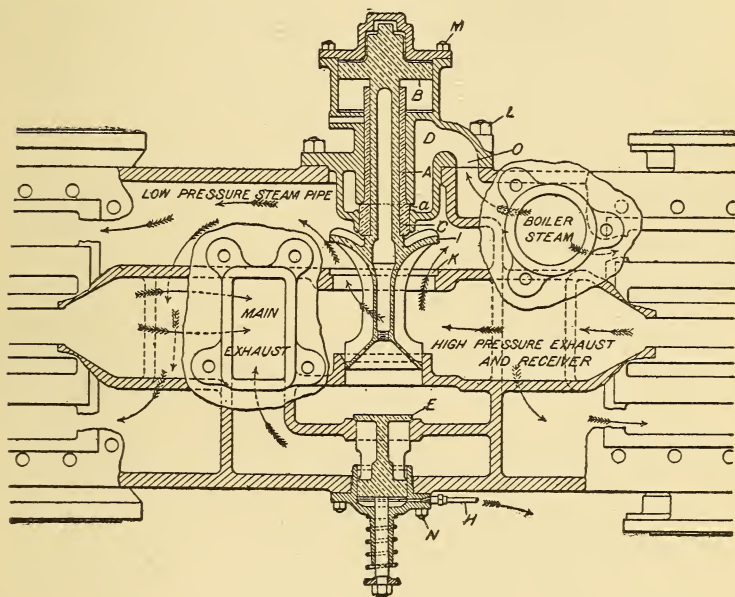

FIG. 66.—SECTION OF INTERCEPTING VALVE OF THE RICHMOND TWO-CYLINDER COMPOUND LOCOMOTIVE.
A. This valve is shown in section in Fig. 66, in the position which it occupies when working under compound conditions. It may stick in the open position as shown or in the closed position with the valve *I* against its seat *K*. The emergency valve *E* may also be stuck open or closed. Or some one of the parts named may be broken.
*Q. What will be the result if the intercepting valve sticks open in the position shown in Fig. 66.*
A. This intercepting valve, which is shown in section in Fig. 66, may develop a leak at *a* or along the outside of the sleeve *C*. A leak past the seat *a* of the reducing sleeve, merely allows the steam to flow down the outside of that sleeve and escape into the atmosphere at the front of the cylinder saddle. It does not affect the working of the engine nor cause a blow, and is at once detected by the appearance of the escaping steam at the point indicated.
First make sure that there is no leak at the high-pressure valve. Remove the cap of the emergency valve *E* and with the latter block the intercepting valve into the open or compound position which it occupies in Fig. 66. Place the high-pressure valve in the central position and open the throttle slightly. If there is a leak steam will appear in the receiver and escape at the cylinder cocks of the low-pressure cylinder.